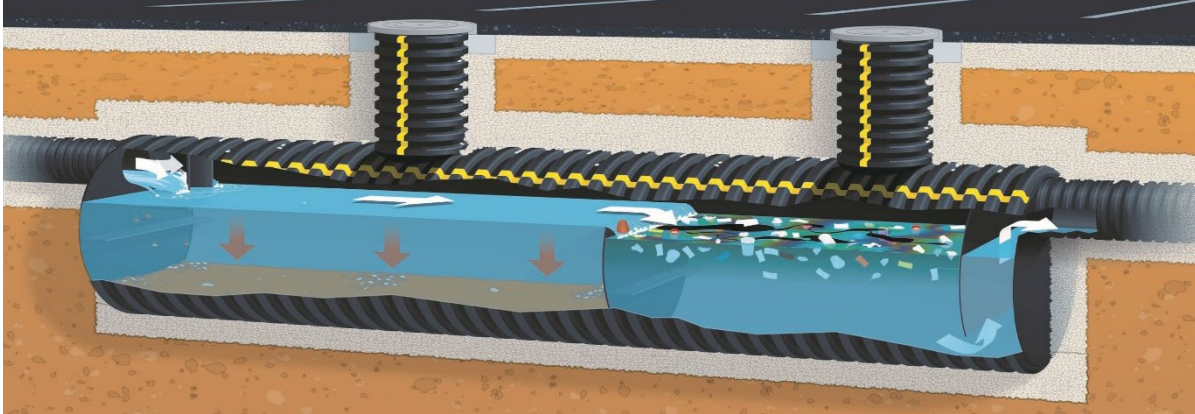

Figure 2: Prinsco's Stormwater Quality Unit
- **Pre-treatment Device:** The use of a pre-treatment unit is recommended for all retention or detention systems. A pre-treatment unit is designed to capture a majority of the sediment and debris before it is able to enter the retention/detention system. This will reduce the maintenance and cleaning requirements of the systems and reduce pollutants from reaching nearby waterways. Prinsco's Stormwater Quality Units (SWQU) is designed to remove debris collected in runoff including trash sediment, oils, and other suspended solids as shown in Figure 2. Prinsco's SWQU is a cost-effective alternative to other units and removes 80 percent of total suspended solids, oil, and grease.